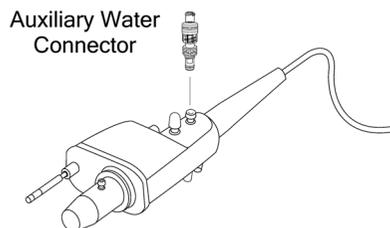

Figure 2
18. Attach the auxiliary water connector to the auxiliary water port by screwing it onto the port (See Figure 2). When attaching the auxiliary water connector to the port, take care to ensure that the auxiliary water connector is aligned to the port and avoid excessive tightening. Misalignment or excessive tightening of the auxiliary water connector could lead to the possibility of leakage. Once the auxiliary water connector is attached to the auxiliary water port of the endoscope, attach Irrigation Tubing to the auxiliary water connector.